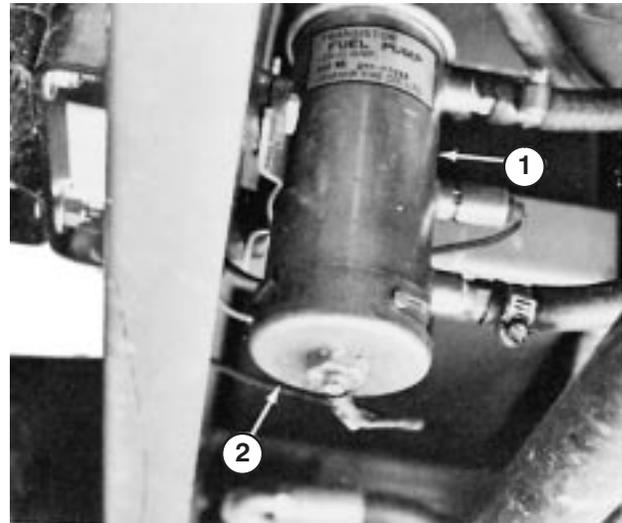

Figure 38
1. Fuel pump is located on inner frame on alternator side of engine (Fig. 38).